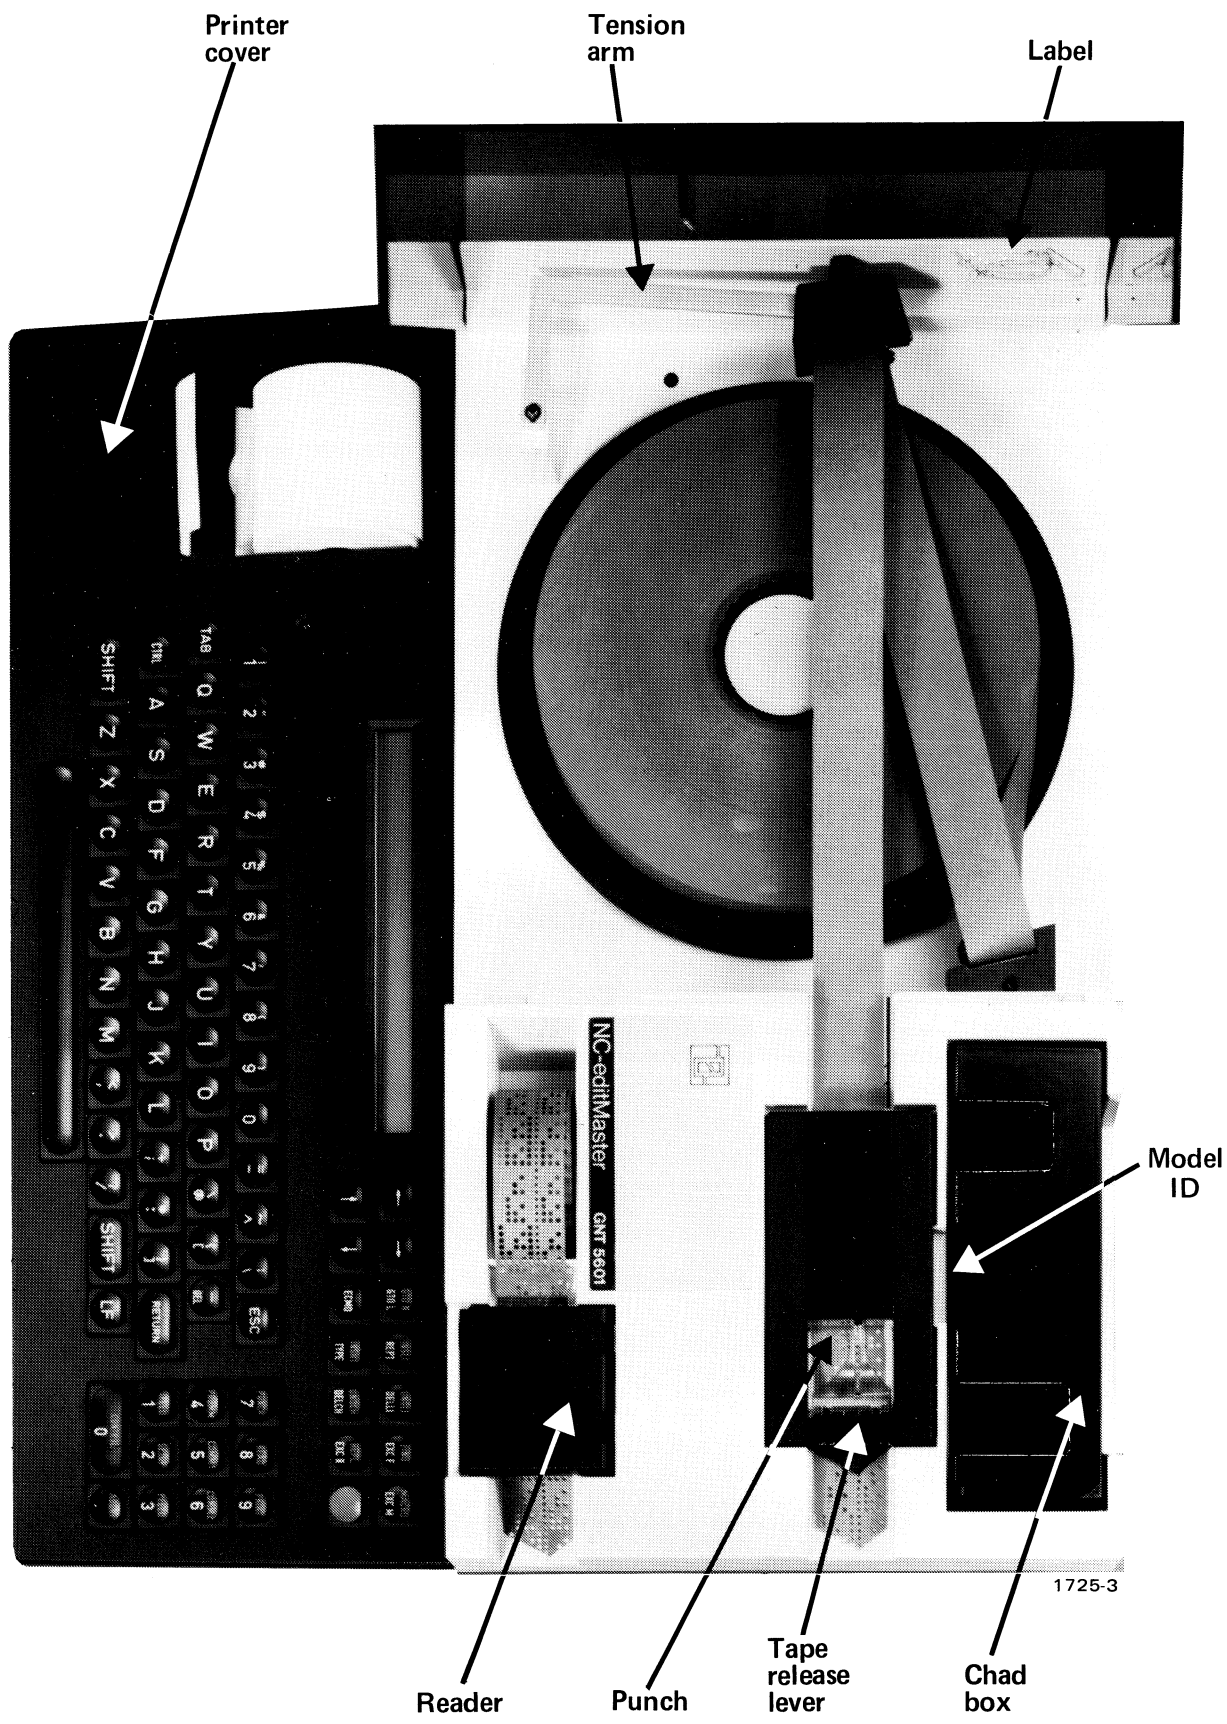

Fig. 2.1 Tape/reader loading
The model is identified by the ID label which is visible when the chad box is removed. See Fig. 2.1 and Section 2.8.
2. Thread the tape around the two rollers as shown in Fig. 2.1.
Place the tape to be read in the container as shown in Fig. 2.1. Open the reader lid, slide the tape under the tab, and engage the tape with the sprocket. Then close the lid. Do not open the lid while the reader is running.
Snap off the printer cover plate (Fig. 2.1). Insert the paper end into the channel being careful not to slide it under the channel by mistake. Press the orange [2nd] button, and release it. Then hold down [PFEED]. The printer will slowly draw the paper through the mechanism. Continue PFEED until 2 or 3 cm of paper projects. Snap the cover on again, sliding the paper end through the slot as you do so. Lastly, place the paper roll in the container.